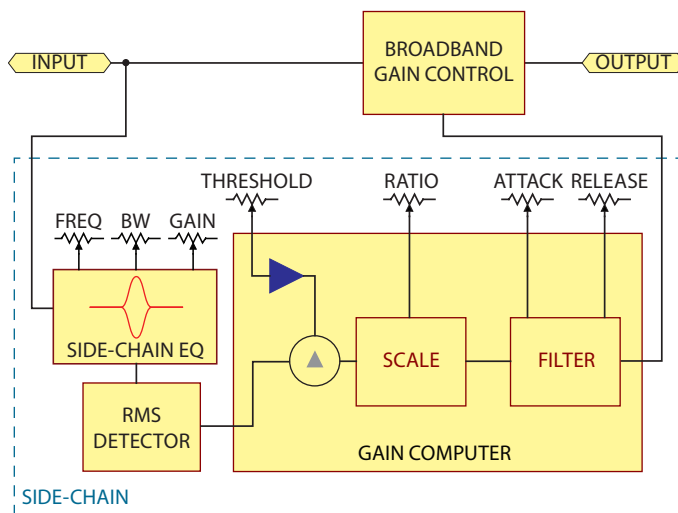

Figure 6. Frequency sensitive compressor block diagram.
**Frequency sensitive compression** is broadband compression as described above with the addition of side-chain equalization to make the detector more or less sensitive to certain frequencies. The basic topology is shown in Figure 6. Side-chain equalization may take the form of a parametric filter (with variable boost, cut and bandwidth), high-cut filter, low-cut filter or all three. In some cases, multiple parametric filters or a multiband graphic are used in the side-chain. If the amplitude of a frequency in the side-chain is reduced, the broadband compressor is less sensitive to it. If the amplitude of a frequency is boosted in the side-chain, the broadband compressor is more sensitive to it.